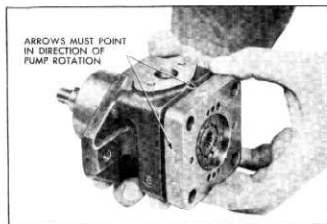

Fig. 29—Cam Ring Directional Arrows
9. Install pump body "O" ring seal and cam ring over dowel pins and rotor vanes (fig. 29).